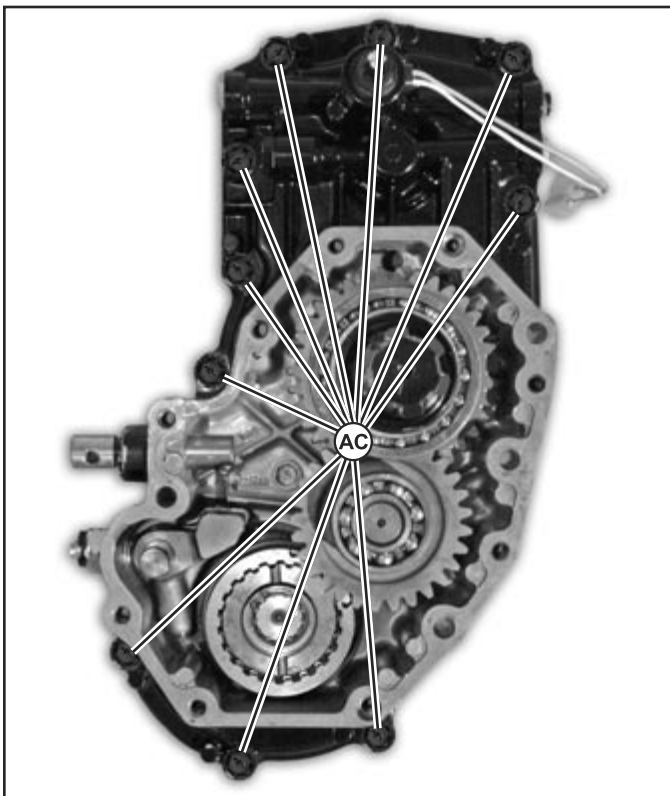

Fig. 29, Rear PTO Gear Case Removal
5. Remove (10) cap screws (AC) and removal PTO rear case from transmission case. (Fig. 29)